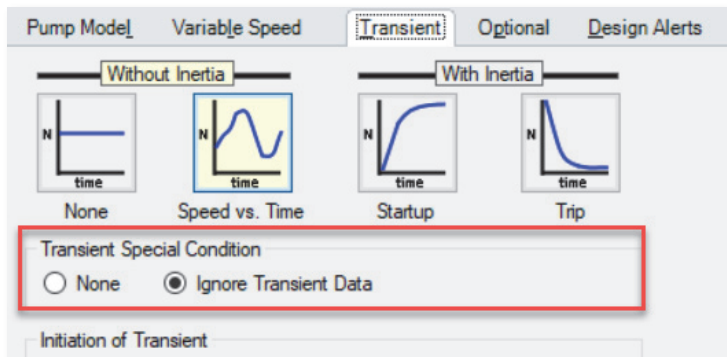

Figure 3.5 Transient Special Condition section on the Transient tab of the Pump Properties window.
- **Open the J5 Pump window.** Click on the Transient tab, then choose the “Ignore Transient Data” option in the “Transient Special Condition” area as shown in Figure 3.5 then click OK. Do the same with the J6 Valve. The required input for this scenario is now complete.